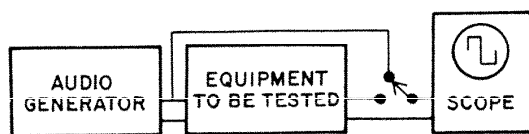

Figure 5. Equipment Test Block Diagram
- Fig. 5. Equipment Test Block Diagram. . . .
Model 377 Audio Generator or Model 488 Electronic Switch can be used to check amplifiers as to frequency response, phase shift, transient response, deficient design, or faulty components. The equipment is set up as shown in Fig. 5.